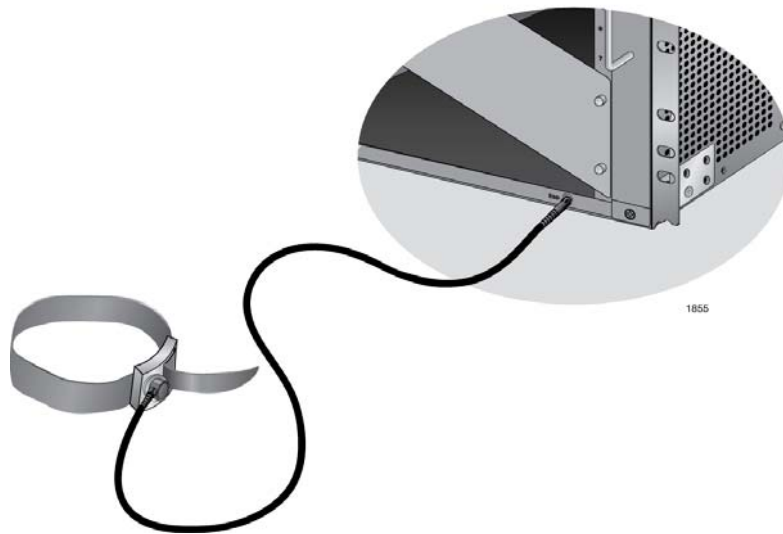

Figure 46. ESD Socket and Wrist Strap
2. Connect the wrist strap that comes with the chassis to the ESD socket in the bottom right corner of the AT-SBx3112 Chassis, shown in Figure 46. This ensures that ESD voltages safely flow to ground.